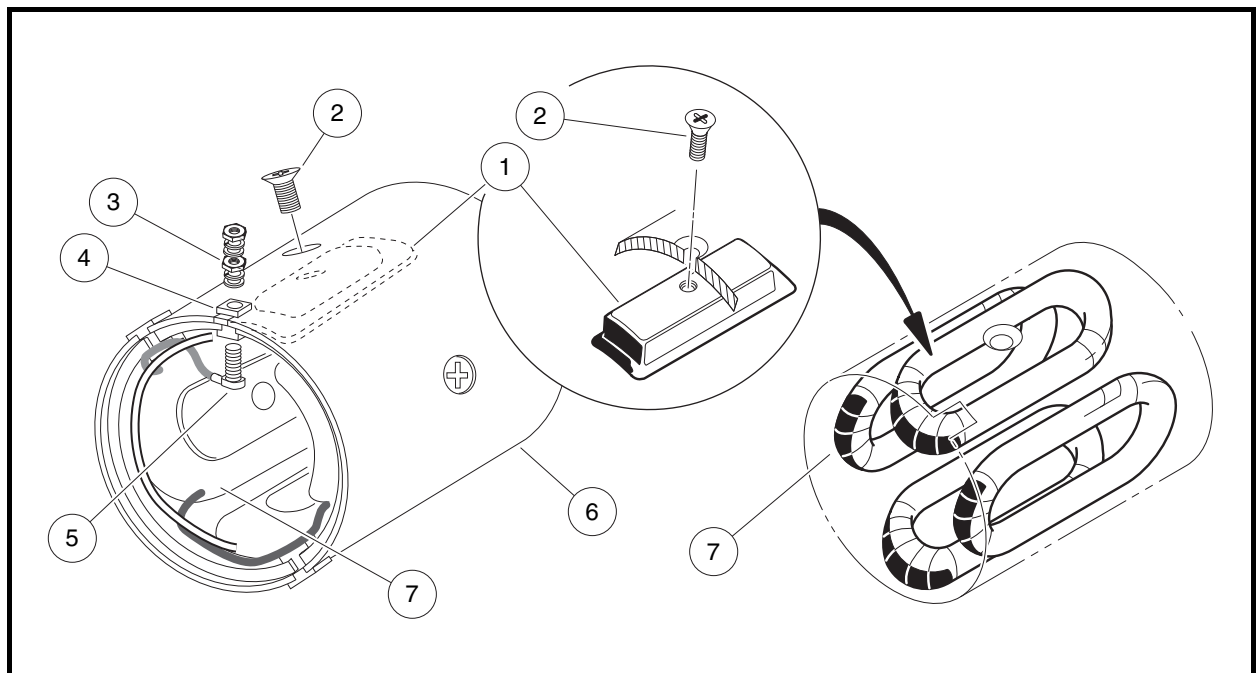

Figure 12-24 Field Coil Assembly
1. Replace entire field coil housing assembly if coils, pole shoes or terminals are damaged. (**Figure 12-24, Page 12-16**).